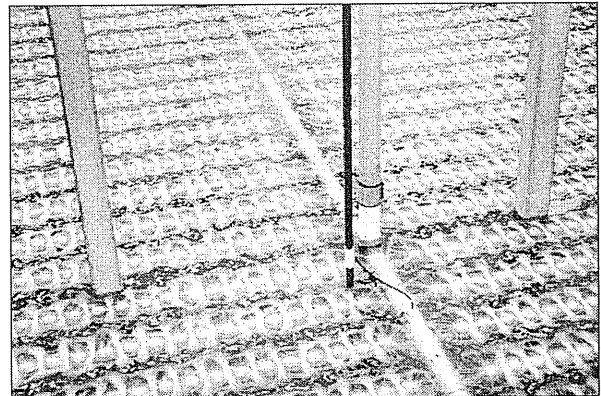

Figure 39
9. Check all diffuser units for uniform air distribution. Air should be discharging uniformly across the diffuser surface. See Figure 39.